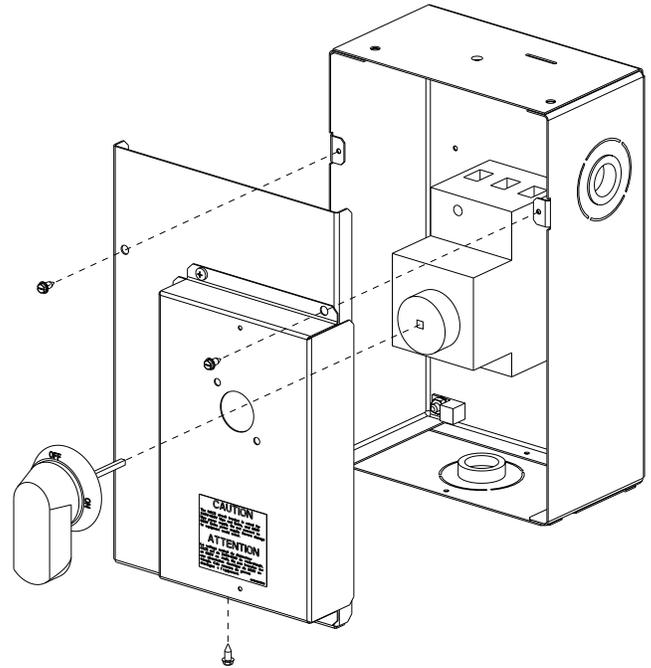

Fig. 43 — Handle and Shaft Assembly for HACR CONVENIENCE OUTLETS
2. Remove (3) hex screws on the HACR enclosure - (2) on the face of the cover and (1) on the bottom (see Fig. 43).
9. Secure the handle to the painted cover with (2) screws and lock washers supplied.
10. Engaging the shaft into the handle socket, re-install (3) hex screws on the HACR enclosure.